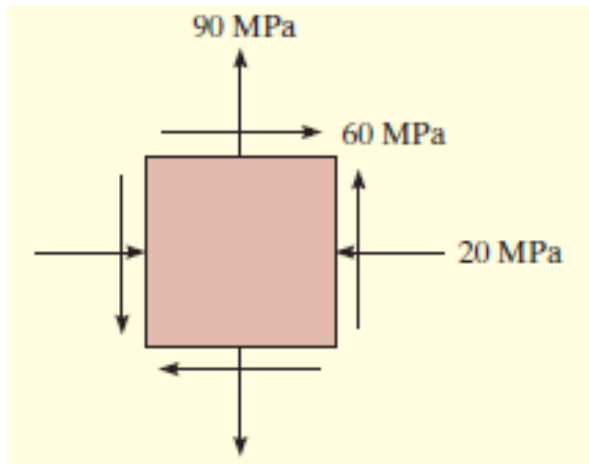

Fig. 2a
- 2 a) The state of plane stress at a failure point on the shaft is shown in Fig. 2a. Represent this stress state in terms of the principal stresses and directions. Also determine maximum shear stress and the normal stress on the plane of maximum shear stress and the directions of maximum shear stresses. **14**